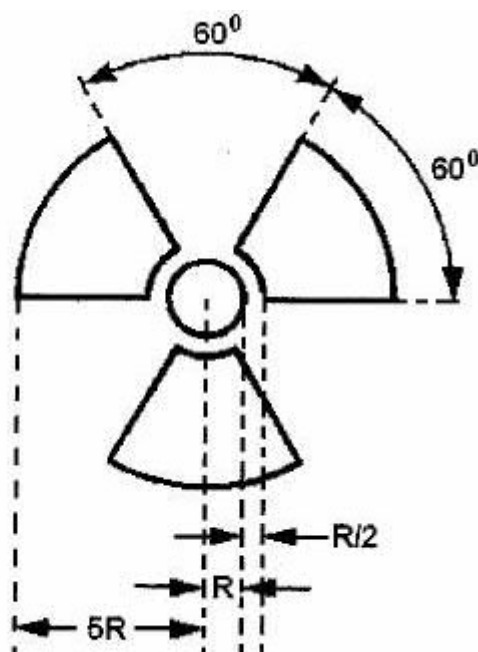

Figure 3
- The relative dimensions of the trefoils and the central circle shall be as shown in Fig.3